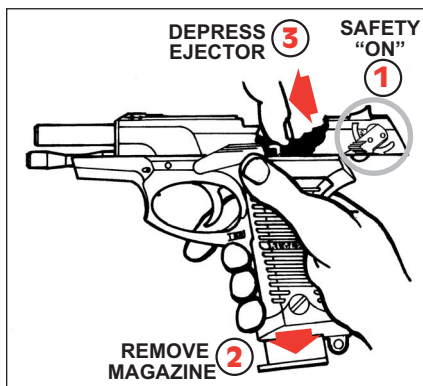

FIGURE 4
3. Keep upward pressure on slide stop to prevent forward movement of slide. Open slide is under strong spring tension and could injure fingers if allowed to slam shut. Insert finger through top of slide and push ejector downward and forward (see Figure 4, p.18) until it locks in its lower position. This will permit forward movement of slide. Further disassembly is impossible unless this is done.